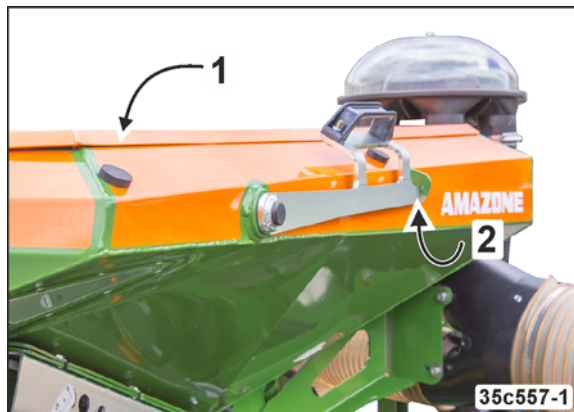

Fig. 214
The seed hopper cover (Fig. 214/1)
- must be closed before switching on the fan (Fig. 214/2)